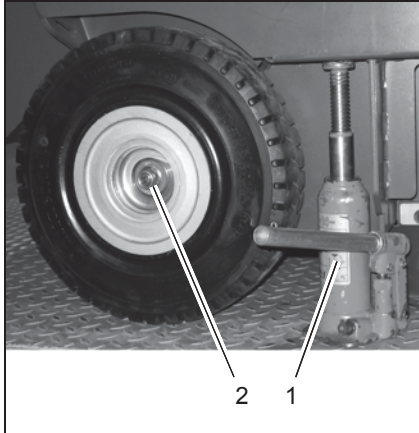

Fig.32
3. Bring the jack (Fig. 32/1) into position under the frame.